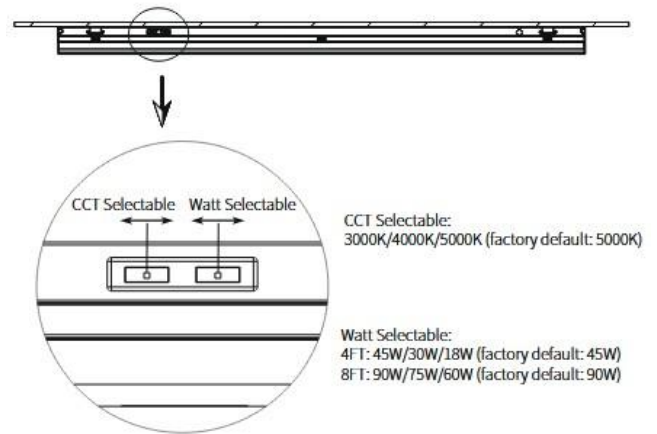

Fig. 5
Step 5. Select your desired wattage and CCT using the two rocker switches (Fig. 5). Then turn on main power to verify your successful installation.